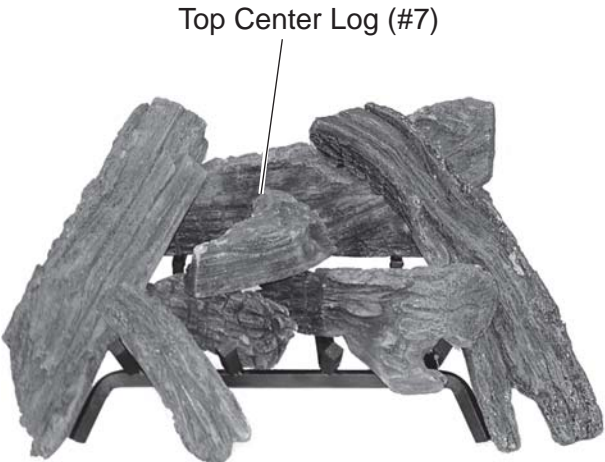

Figure 74 - Resting Center Top Log (#7) Bottom left Log and Back Log
- 8. Rest Top Center Log #7 on bottom left log #2 and back log #1. See Figure 74.